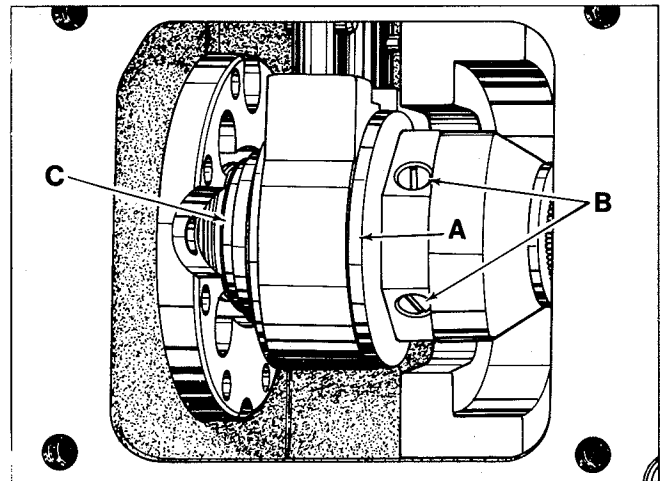

Fig. 17
Timing of spreader travel is determined by the position of spreader drive eccentric (A, Fig. 17) on the crankshaft. While rotating handwheel in operating direction, the spreader should begin to move to the left as needle bar rises $1/8$ inch (3.8mm) from bottom of stroke. Adjustment can be made by loosening screws (B), advance or retard eccentric as required. Thrust eccentric against spacing washer (C) when tightening screws (B).